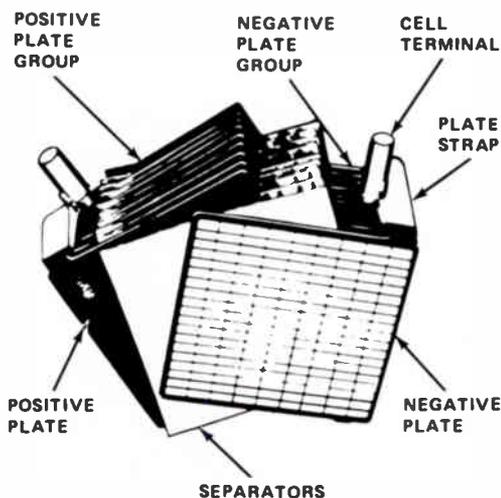

Figure 5. The construction of a storage battery.
**Lead-Acid Batteries.** This type of cell has two sets of internal plates. One set of plates is connected, or "bussed," together for the positive terminal; the other set of plates is bussed together and brought out at one point as the negative terminal. The set of positive plates is treated chemically to change it to an oxide of lead, the negative set is pure lead. They fit together as shown in Fig.5.